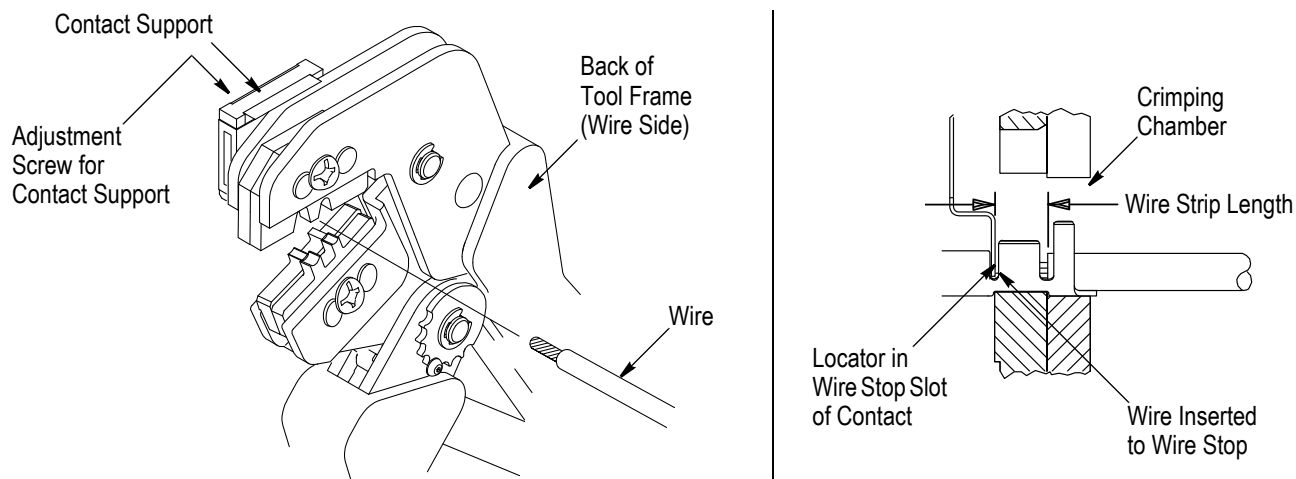

Figure 3
the tool frame. Place the contact up into the crimping chamber so that the locator drops into the slot in the contact. Refer to Figure 3. Butt the front end of the wire barrel against the locator.
5. Insert the stripped wire into contact insulation barrel and wire barrel until it is butted against the wire stop as shown in Figure 3.
The crimped contact may stick in the crimping area; however the contact can be removed by pushing downward on the top of the locator (see Figure 3).